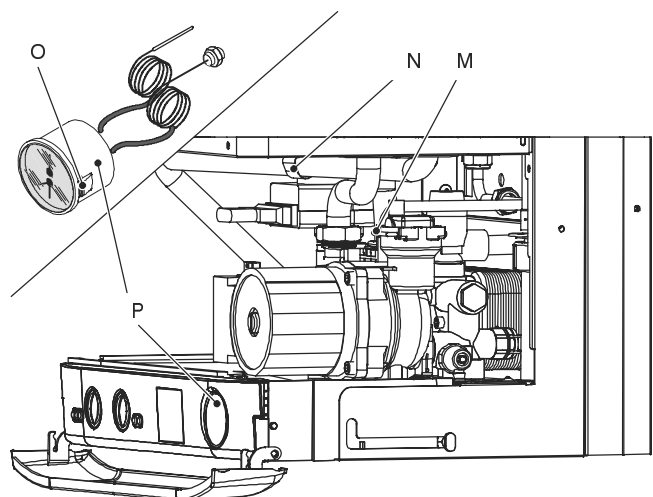

Fig. 13.3
- 2 Remove the fork *M* and the probe holder spring *N* (Fig. 13.3).